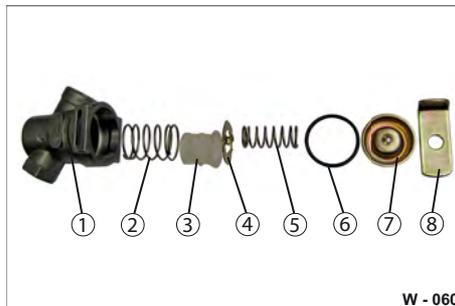

Fig. 61 Line filter disassembled
- ▶ Press the cover (Fig. 61/8) downwards with a screwdriver and pull out the bracket (Fig. 61/9).
- ▶ Remove both springs (Fig. 61/3 & Fig. 61/6), the seal (Fig. 61/7), the intermediate plate (Fig. 61/5) and the filter (Fig. 61/4).
- ▶ Clean the filter housing (Fig. 61/2) with a clean, dry cloth.
- ▶ Clean the filter (Fig. 61/4).
- ▶ Check if the seal (Fig. 61/7) is present or damaged.
- ▶ Set the small springs (Fig. 61/6) on the latches of the intermediate plate.
- ▶ Set the cover (Fig. 61/8) on top.